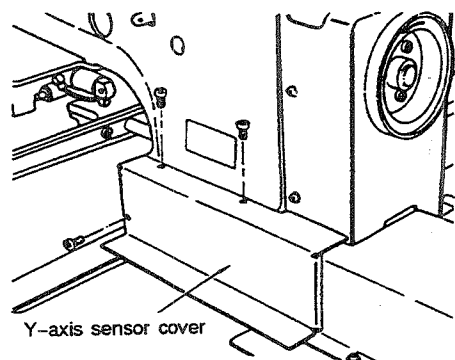
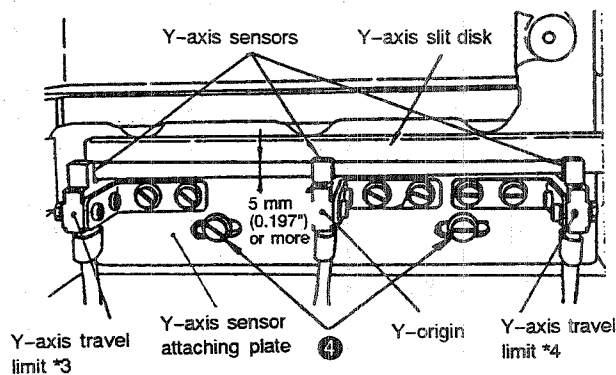

Fig. 5-33-8
Fig. 5-33-9
<p>B. Adjusting the Y-axis origin and travel limit</p> <ol style="list-style-type: none"> 9) Remove the Y sensor cover. (Fig. 5-33-8) 10) Follow the same procedure described in steps 2) and 3). 11) Loosen setscrews ④, and move the Y sensor attaching plate to the left or right until display (H) showing the Y origin changes from 1 to 0. Immediately after the display has changed, tighten setscrews ④. (Fig. 5-33-3, Fig. 5-33-9) 12) Press jog key <input type="button" value="8 ▲"/> on the operation panel to move the feeding frame until display (I) showing the travel limit *3 changes from 1 to 0. Immediately after the display has changed, stop the feeding frame. (Fig. 5-33-3) 13) With regard to marker line V of travel limit *3, make sure that the specified distance is obtained referring to the procedure described in step 8). If the gap exceeds the specified range, adjust the position of the sensor for Y-axis travel limit *3, keeping the distance 32.5 (1.280") ± 0.2 mm (0.008") shown in Fig. 5-33-13. 14) With regard of display (G) showing travel limit *4, press jog key <input type="button" value="2 ▼"/> on the operation panel and make the adjustment referring to the procedure described in step 12). 15) With regard to marker line V of travel limit *4, make sure that the specified distance is obtained referring the procedure described in step 13). If the specified distance is not obtained, adjust the position of the sensor for Y-axis travel limit *4 referring to the procedure described in step 13). <p>(Caution) After making the adjustments, make sure that the Y-axis slit disk enters the center of the clearance between the sensor photo-couplers and that the slit disk overlaps the top end of the sensor photo-coupler by 5 mm (0.197") or more, when the Y-axis slit disk passes through the three Y-axis sensors. If they do not, adjust the clearance between the slit disk and the photo-coupler referring to "C. Clearance between the slit disk and the photo-coupler."</p>